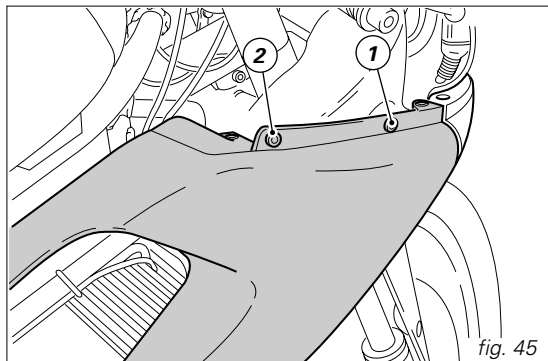

fig. 45
Unscrew the fastening screw (1, fig. 45) that holds each body panel to the side frame on the left side or to the expansion reservoir on the right side and the rear screws (2) that hold each of them to the frame bracket.